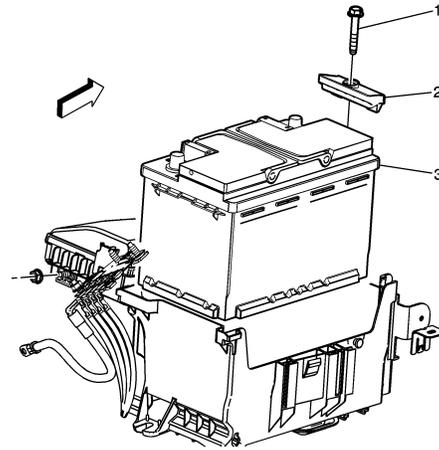

Fig. 3 Battery removal
12. Remove battery retainer bracket bolt (1) and retainer bracket (2), **Fig. 3**.
2. Install battery retainer bracket (2) and bolt (1), **Fig. 3**. **Torque** bolt to 89 inch lbs.